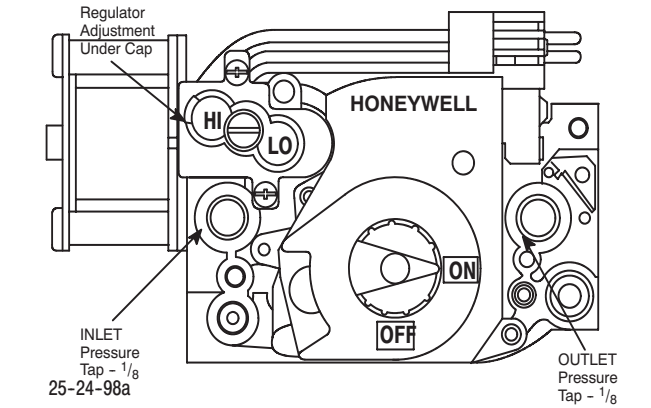
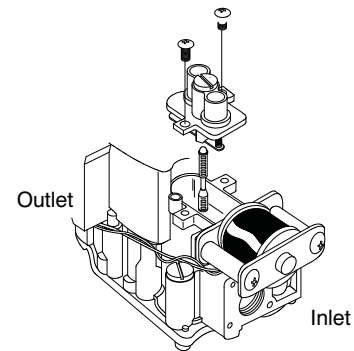

Fig. 5 - Honeywell Gas Valve VR8205Q
Fig. 6 - Typical Honeywell Regulator Assembly
1. Remove the two screws securing the Hi/Lo regulator cover to the valve. (See Fig. 5 & Fig. 6)
- Verify the igniter is in the correct location. (See **Figure 5.**)
1. Remove the plug from the Inlet Pressure Tap on gas valve and install a manometer. (Fig. 5)
1. Connect U-Tube manometer to the tapped opening on the outlet side of gas valve on the manifold pipe. (See Fig. 5)